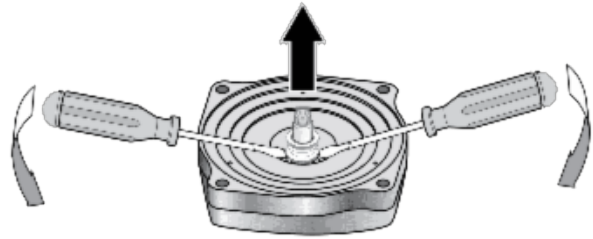

Figure 12: Pry Out Seal
6. Using two screwdrivers, as shown in Figure 12, pry out rotating assembly of shaft seal.